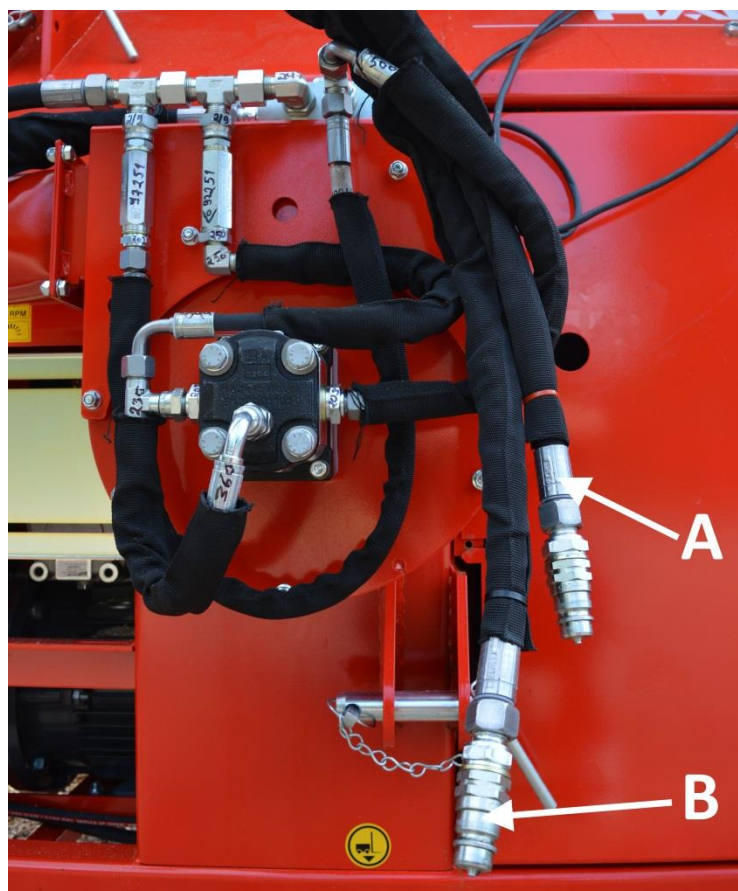

Figure 17a.
1. Attach hose A (red string) in Figure 17a to the pressure-side quick coupling of the tractor's hydraulics.